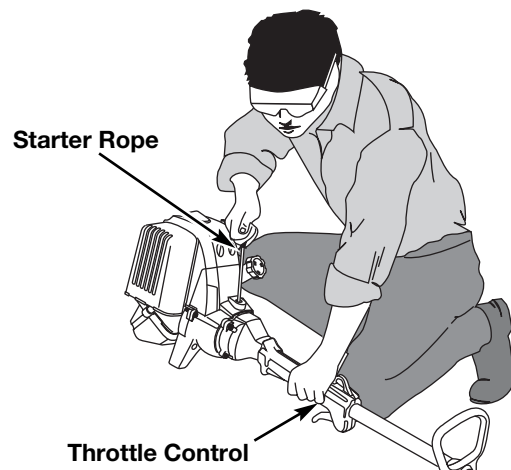

Fig. 9
WARNING: Avoid accidental starting. Make sure you are in the starting position when pulling the starter rope (Fig. 9). To avoid serious injury, the operator and unit must be in a stable position while starting.
5. With the unit in the starting position, **do not squeeze the throttle control** (Fig. 9). Pull the starter rope out a short distance, until you feel some resistance. This is usually around 2-4 inches. Then pull the rope smoothly and briskly. Repeat this 5 times. The engine should start.